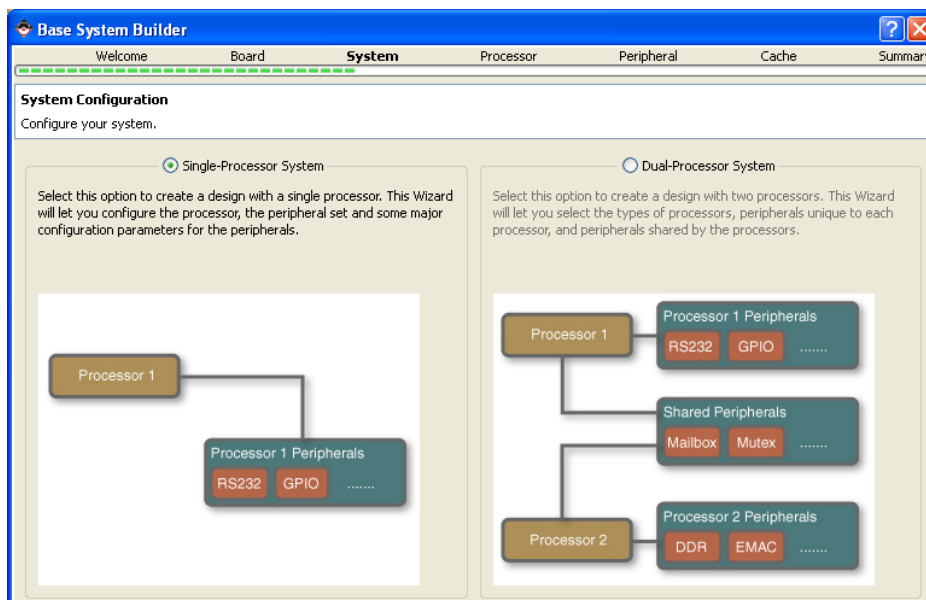

Figure 6. System Configuration Dialog Box
- 1-1-6.** In the **System Configuration** dialog, leave the default **Single-Processor System** option (**Figure 6**) and click **Next**.